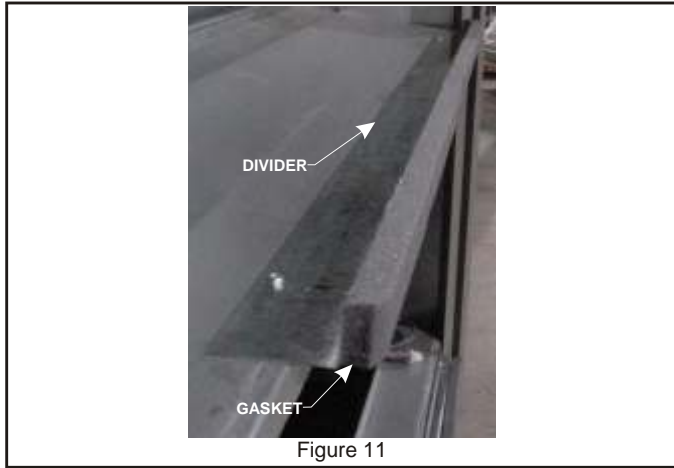

Figure 11
2. Install divider. Attaching to rooftop unit division panel with 1" flange pointing upward. This part has slots to aid in setting to proper position (Approx. 1" away from divider edge). Apply $\frac{3}{4}$ " x $1\frac{1}{4}$ " gasket to front edge of seal stop. **See Figure 11.**